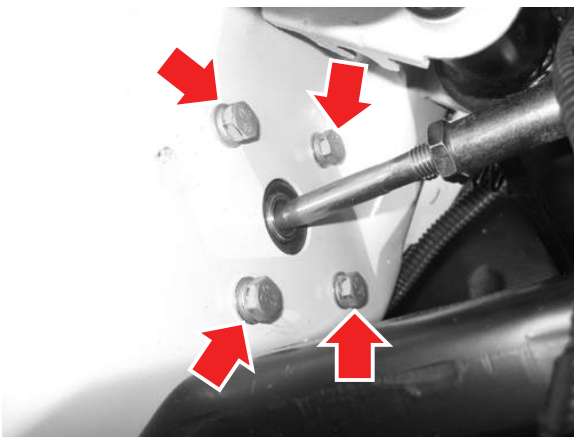

Figure 7-2
2. Remove and discard (one at a time) the 4 bolts securing the brake valve to the brake valve bulkhead. Replace with new bolts (GM410108AD13) and tighten 9.6 ft-lb (13 N•m) of torque (see *Figure 7-2*).